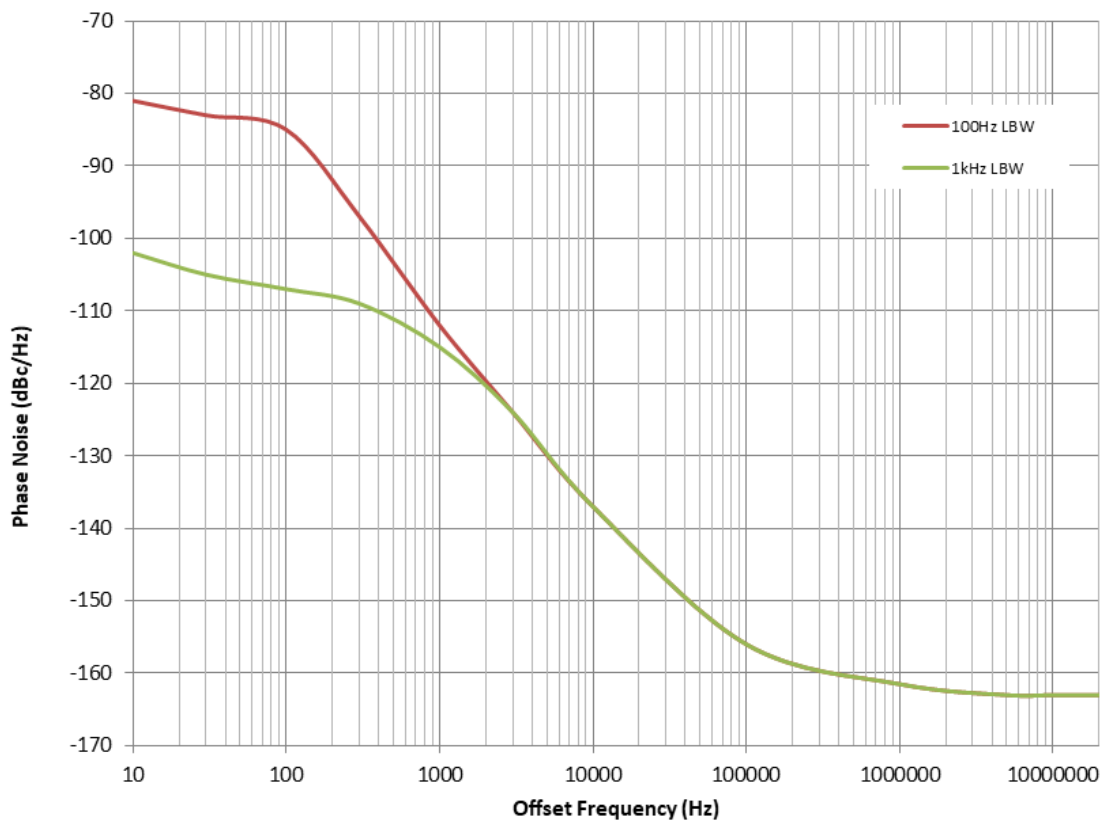

Figure 4. 156.25-MHz Output Phase Noise From LMK05318 With APLL1 BW of 100 Hz (Red Line) and APLL1 BW of 1 kHz (Green Line) and Reference Input of 25 MHz
- With the DPLL powered down, APLL1 with a loop bandwidth in the range of 100 Hz to 1 kHz can be used to clean high-frequency noise on the reference input clock. In this mode, APLL2 is recommended to be locked to the divided clock from APLL1 to generate a second frequency domain with low jitter as per the application needs. The advantage of this configuration is the ability of the LMK05318 to clean high-frequency noise without needing any external XO and when there is no explicit phase noise requirement for the close-in offset frequencies. This configuration enables a cost effective solution that also occupies smallest overall area and improved reliability, due to not needing any crystal based component, compared to other competing jitter cleaners. Figure 4 shows the phase noise plot for a 156.25-MHz output from the LMK05318 that is locked to a dirty reference input clock of 25 MHz with APLL1 loop bandwidth of 100 Hz (red line) and APLL1 loop bandwidth of 1 kHz (green line).